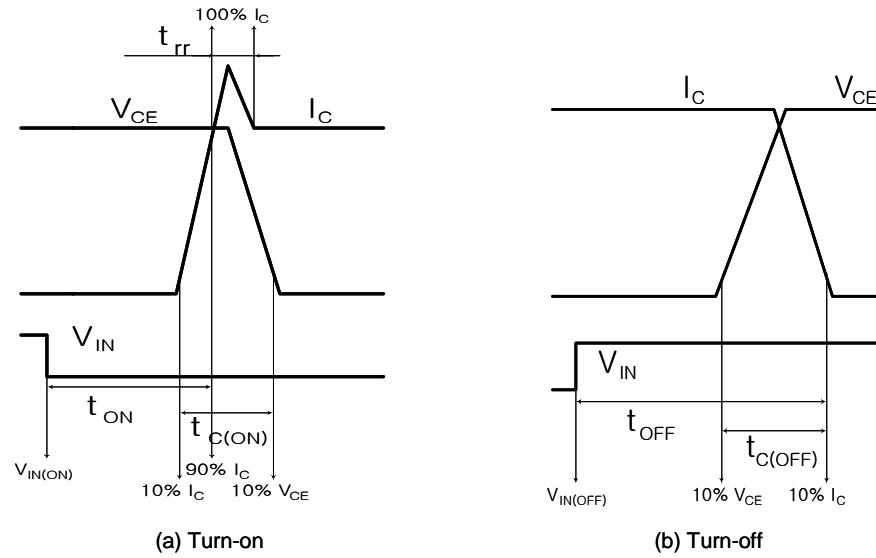

Fig. 5. Switching Time Definition
3. t_{ON} and t_{OFF} include the propagation delay time of the internal drive IC. $t_{C(ON)}$ and $t_{C(OFF)}$ are the switching time of IGBT itself under the given gate driving condition internally. For the detailed information, please see Fig. 5.